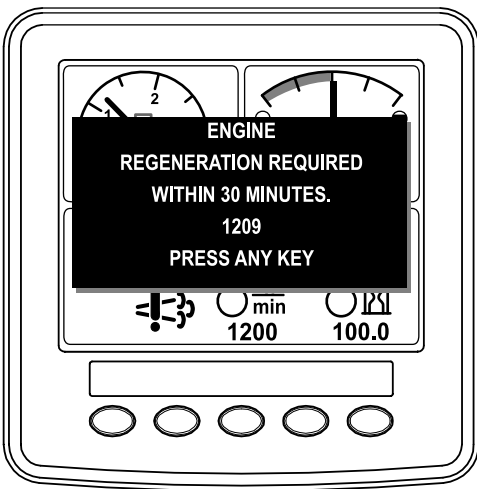

Figure 48
- If you ignore the request for a parked regeneration (displayed in the InfoCenter) and continue to operate the machine (Figure 48), a critical amount of soot may accumulate in the DPF.